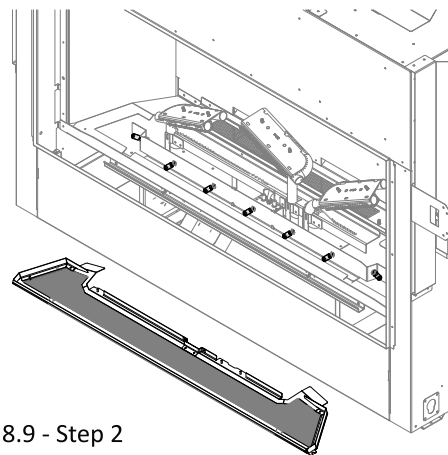

Figure 8.9 - Step 2
2. If installed, remove the safety screen barrier, component access cover, and glass frame assembly. Remove the front media tray via (2) screws. Figure 8.9.